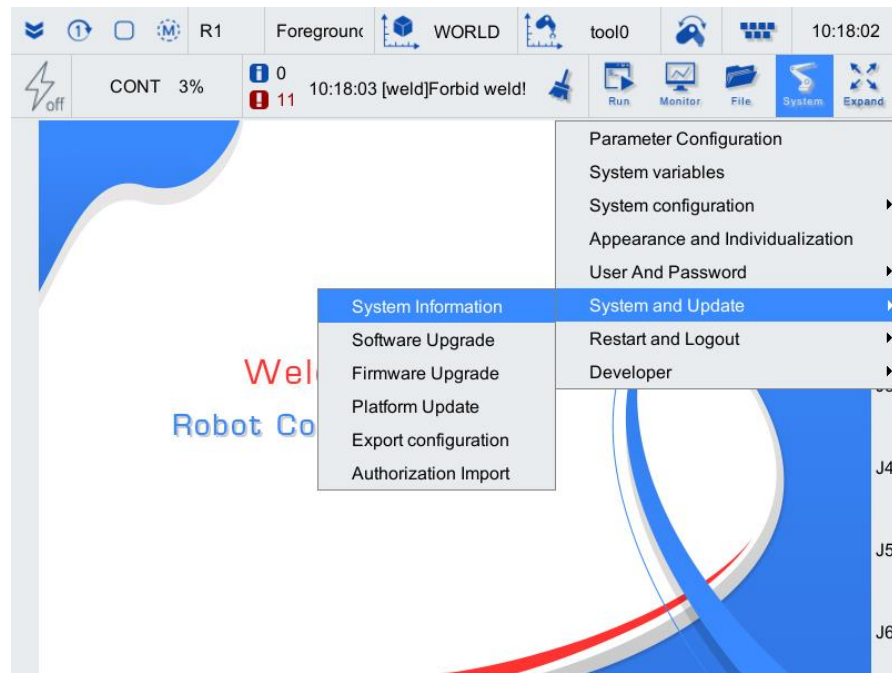

Figure 4-11 Main interface of teach pendant
- Step3. Click the "System" button in the top right corner on main interface of the teach pendant, and then select the "System and Update/Authorization Import" option in the drop-down list, as shown in Figure 4-11.